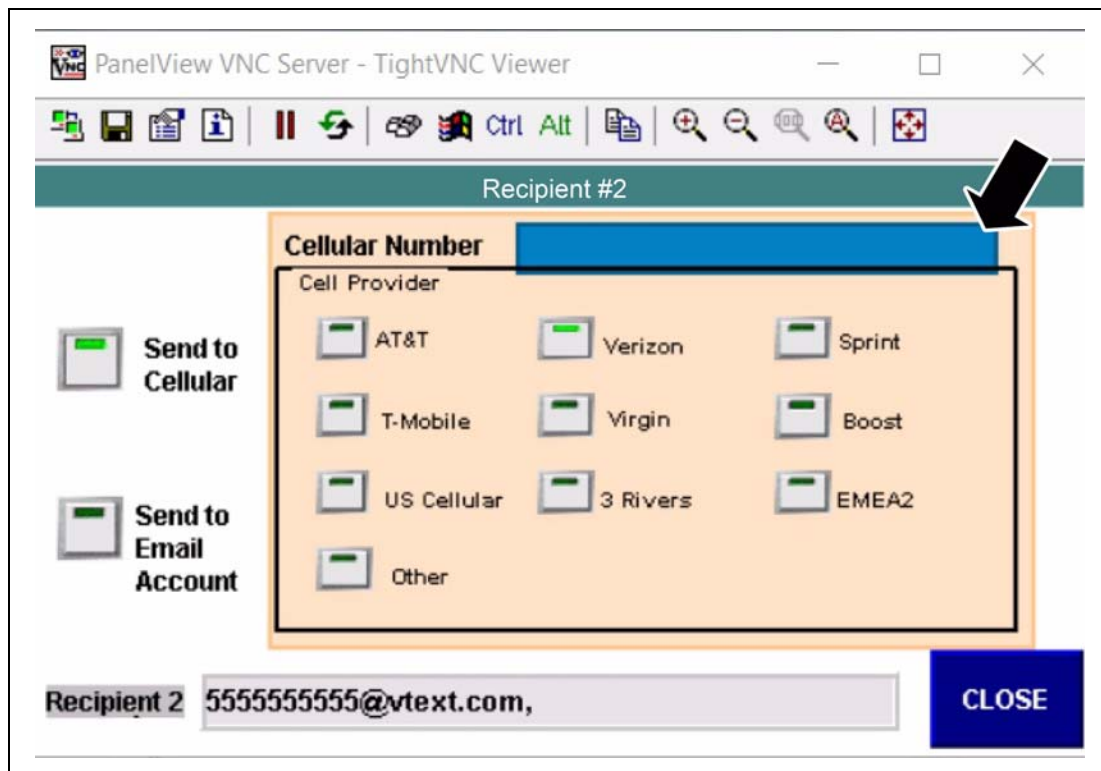

Figure 6I
8. Select the radio button for the cellular carrier for the number you want to send a message to. Then click on the blue Cellular Number window to enter the phone number, including area code. Do not include dashes, only numbers. After hitting the return key, the phone number should show up in the grey Recipient field with the carrier information appended to the number string. Select Close when finished. (See Figure 6I.)